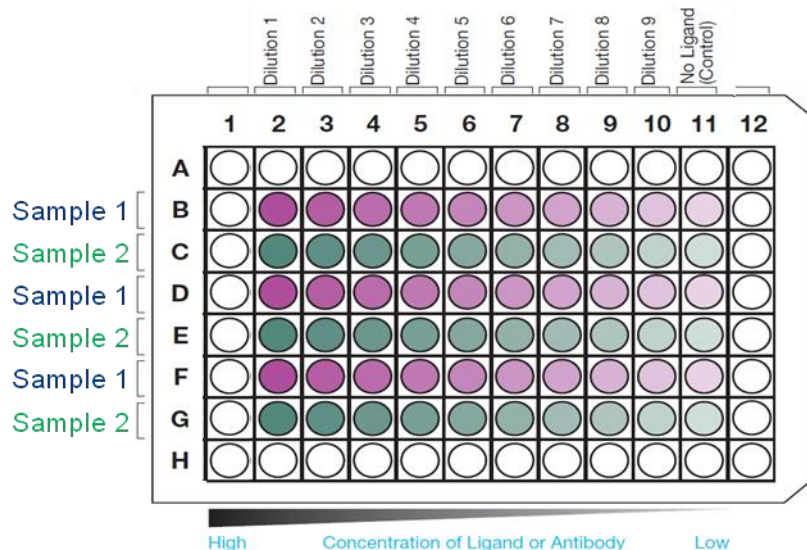

Figure 4 Representative Assay Plate Map
6. Plate the cells directly in a 96-well white-walled clear bottom plate at 25,000 cells / well in a volume of 100 µL, in the inner 60 wells of the plate, as shown in Figure 4, Representative Assay Plate Map (e.g. Rows B, C, D, E, F and G, columns 2 through 11). Fill edge wells with an equivalent volume of AIM-V media to prevent evaporation. Incubate the plates in a humidified chamber (37°C, 5% CO₂) for 3 days.
- Add 10 µL of each 11X antibody dilution series from the Master Dilution Plate in triplicate to the designated rows in the assay plate (e.g. Test Antibody 1 (Sample 1) in Rows B, D and F and Test Antibody 2 (Sample 2) in Rows C, E, and G as shown in the Representative Assay Plate Map \(Figure 4\).